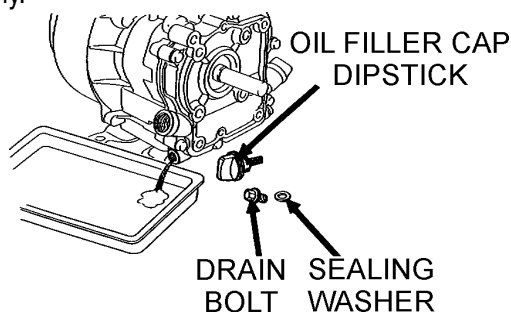

Figure 26. Engine Oil (Draining)
1. Drain the engine oil when the oil is **warm** as shown in Figure 26.